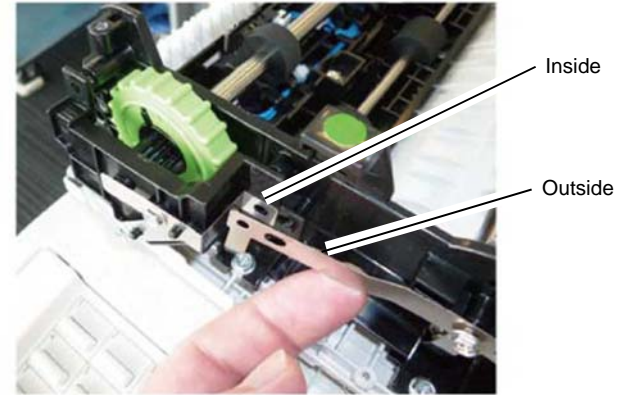

Figure 10 Ground plate installation
2. Install the front bracket and ground roll plate as shown in Figure 10.